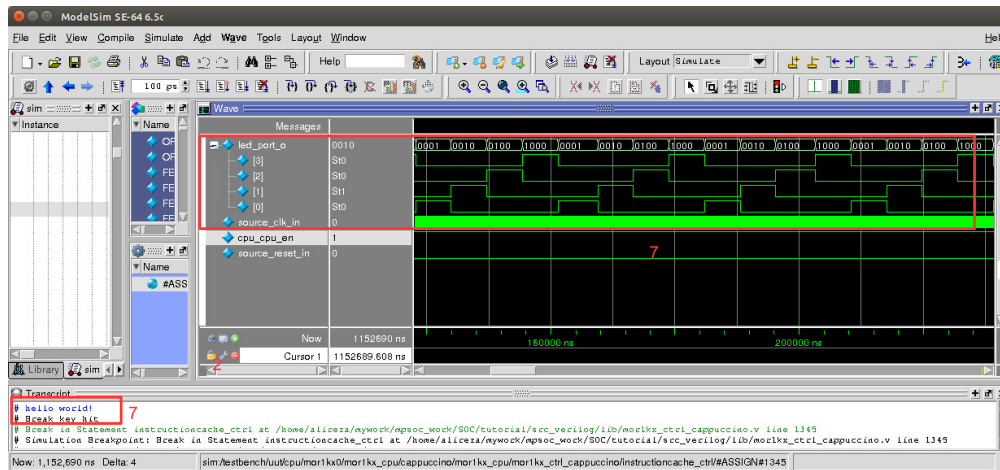

Figure 5.18: Modelsim output snapshot.
- Figure 5.18 shows the Modelsim simulation output snapshot. You must see the "hello world!" expression in the Modelsim terminal. The LEDs outputs also must be seen as cyclic shift to the left of a one-hot code in the Signal Waveform Window.